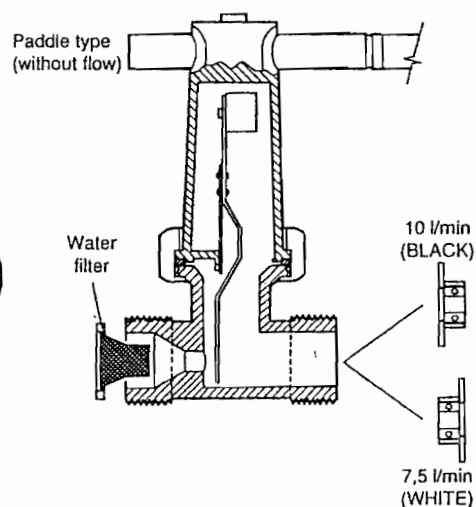

Fig. 38
- Re-assemble in reverse order, ensuring that the filter, flow restrictor and sealing washers are in the correct position (fig. 38). The polarity for the electrical wiring is immaterial.